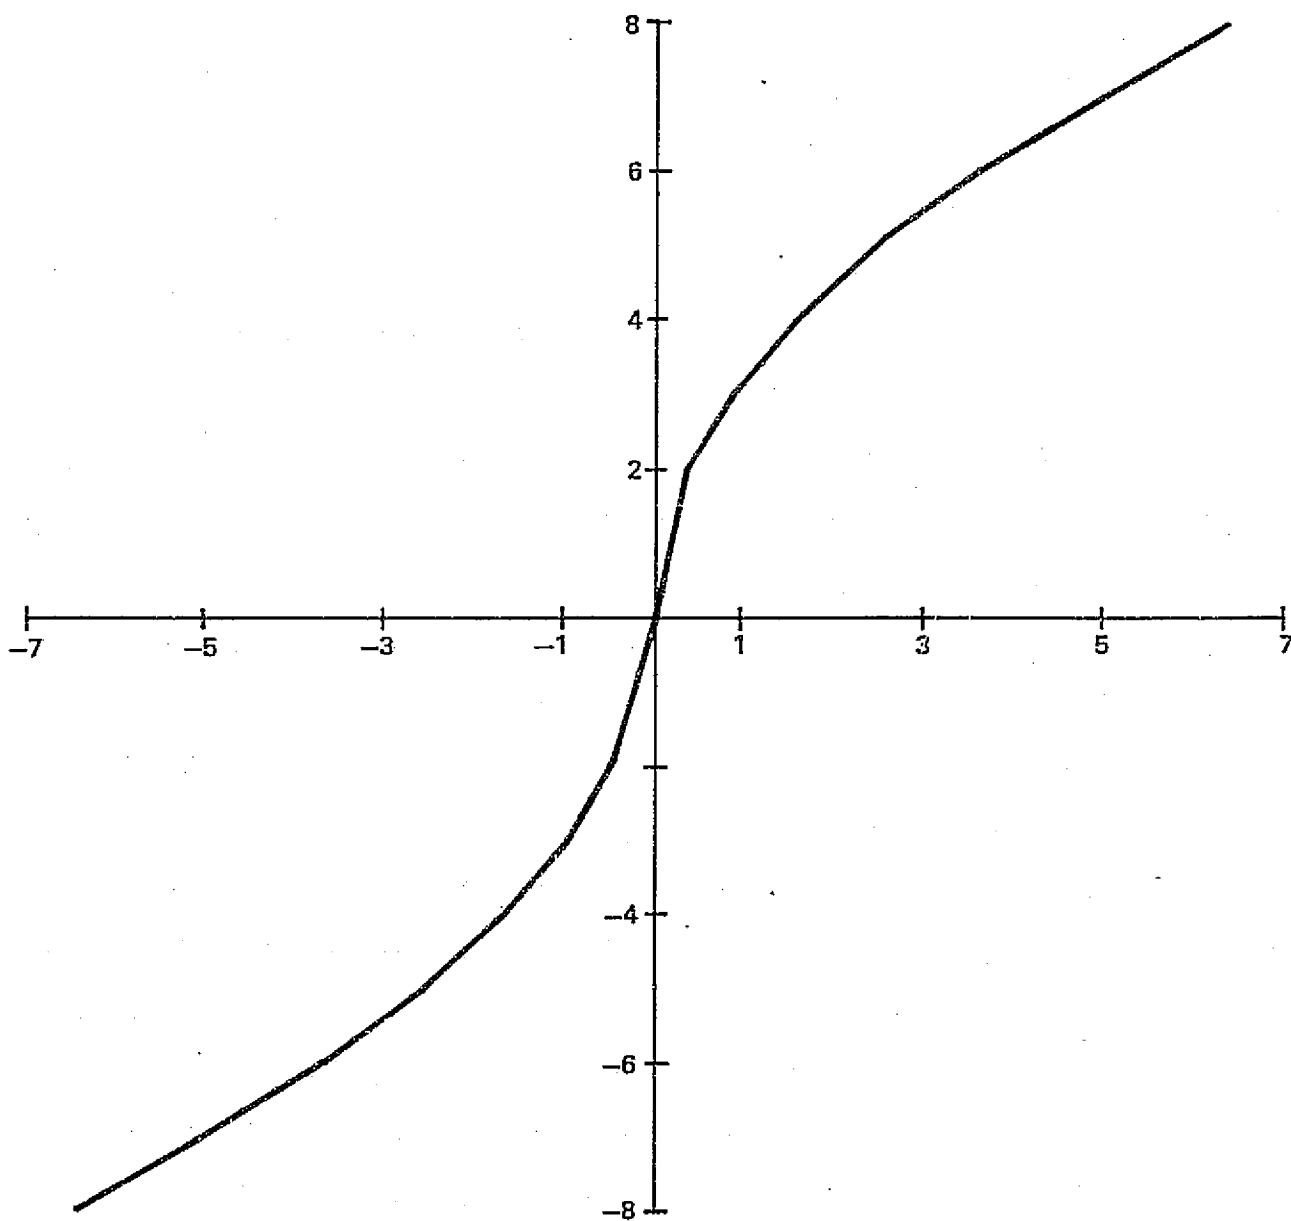

Figure 2. - Waveform at TP4 for step 5.G, SAS1012.
- G. Compare waveform to figure 2.